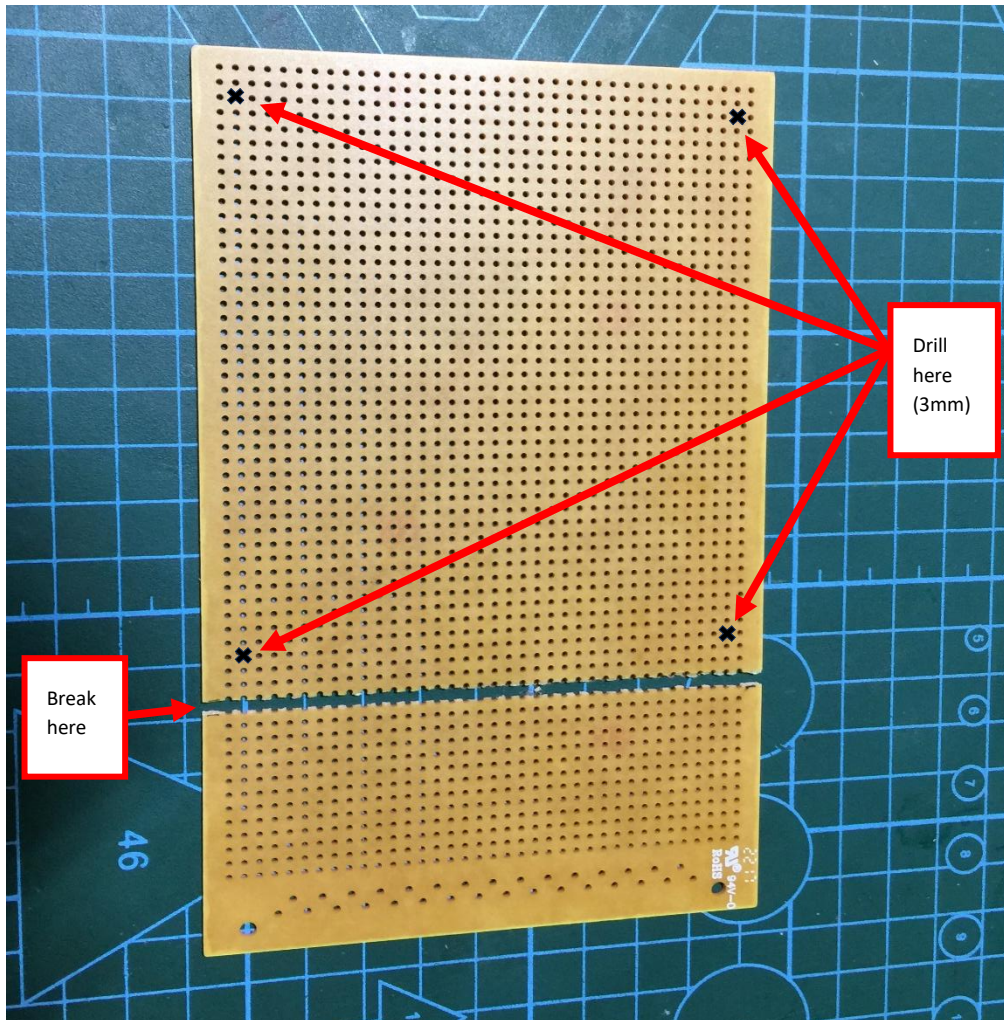

Figure 18 – Preparing the Stripboard
- Mark the four corners for drilling with a permanent marker. The locations of the holes are important as they correspond to the holes in the mounting plate. See FIGURE 18 – PREPARING THE STRIPBOARD